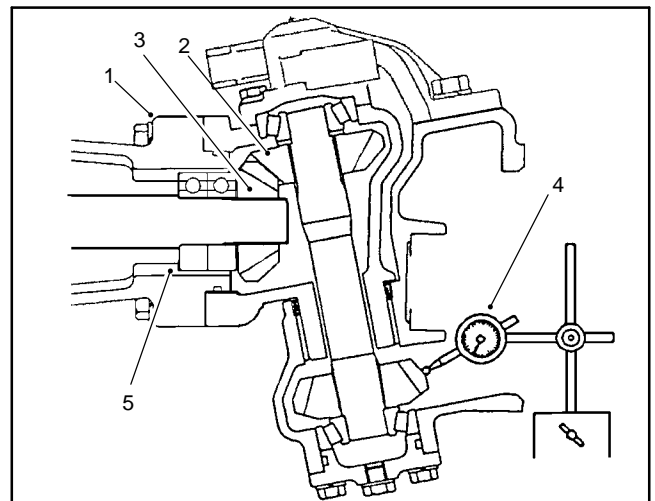

Figure 25
7. Temporarily install the bevel gear case/axle case assembly on the axle support. Position a dial indicator at the teeth center. Prevent the axle from turning and measure the upper bevel gear to differential shaft gear backlash (Fig. 25).